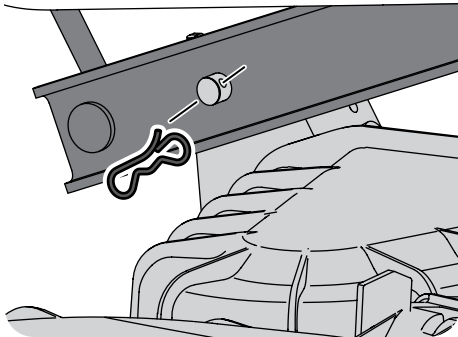

Figure 4-4
11. Looking at the deck from the left side of the tractor, locate the bow-tie pin on the rear left side of the deck. See Figure 4-4.
12. Remove the pin and slide the deck pin out of the deck lift arm. See Figure 4-4.